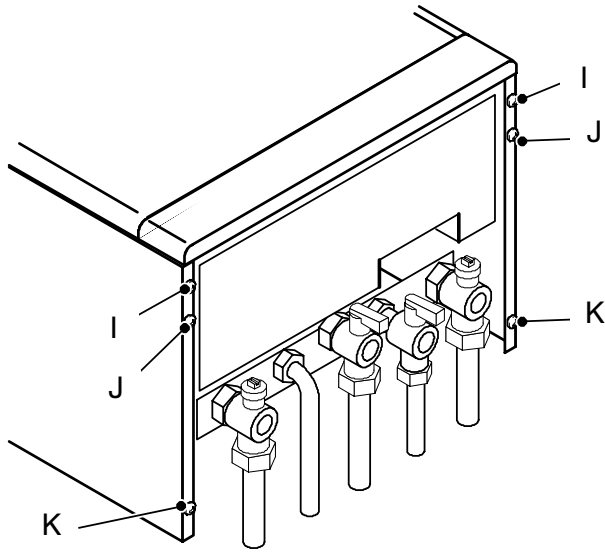

Fig. 6.10
- 2 Remove the screws I and J (Fig. 6.10).